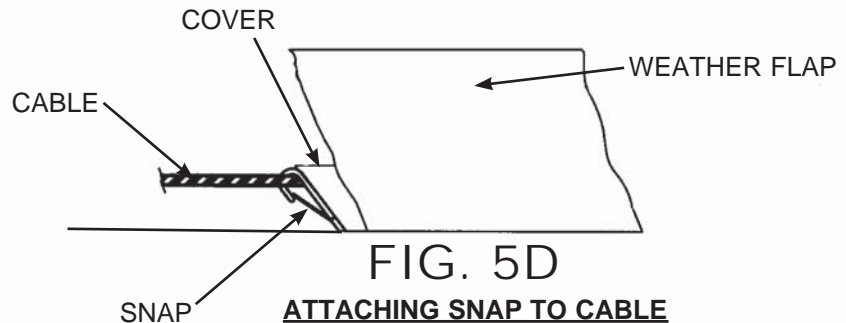

FIG. 5D
3) Attach the snaps located under pool cover in cable area onto cable. See FIG. 5D.